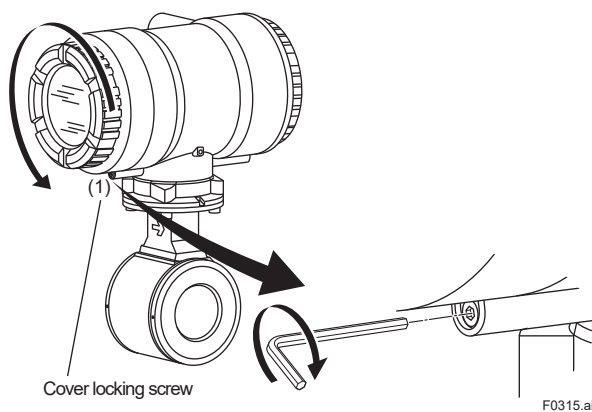

Figure 3.4.1 Removing the Display Cover
- Using the wrench, loosen the cover locking screw (1) (See Figure 3.4.1) clockwise to unlock the cover. Upon shipment from the manufacturing plant, the cover is locked. Hold the flowmeter with your hand. Remove the cover by rotating it counterclockwise.
(3) Installing the Cover
- Tighten cover locking screw (1) (See Figure 3.4.1) counterclockwise using a hexagonal wrench (nominal size 3) to lock the cover.